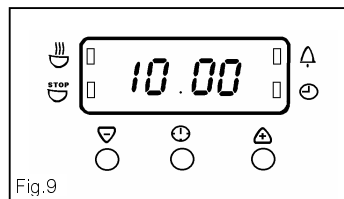

Fig.9
- i) Ensure the electricity supply is switched ON and that the correct time is displayed, e.g. 10.00 a.m. as Fig. 9.